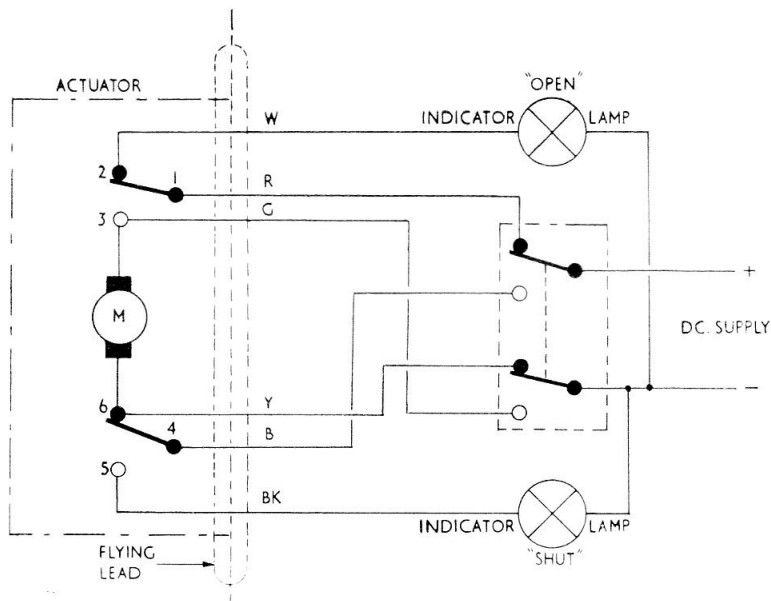

Fig. 1. Circuit diagram
OPEN and SHUT positions of the equipment which is being operated by the actuator is given in the circuit diagram (fig. 1).
3. Electrical connection to the actuator is by a 5 ft. flying lead of Septoprensheath 6 cable. For connections to the associated equipment reference should be made to fig. 1.